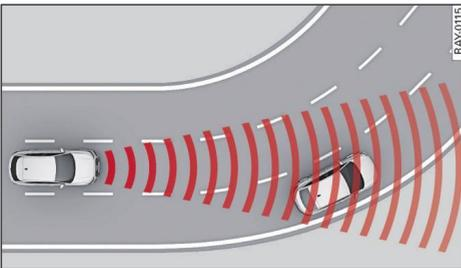

Fig. 88 Example: Driving into a bend
- If a vehicle ①, which has already been detected by the adaptive cruise assist, turns off or changes lane and another stationary vehicle ② is located in front of that vehicle, the system will not react to the stationary vehicle.
- When driving into a bend ⇒ Fig. 88 and driving out of a bend, the system may react to a vehicle travelling in the next lane and therefore brake the vehicle. You can override this by accelerating briefly.